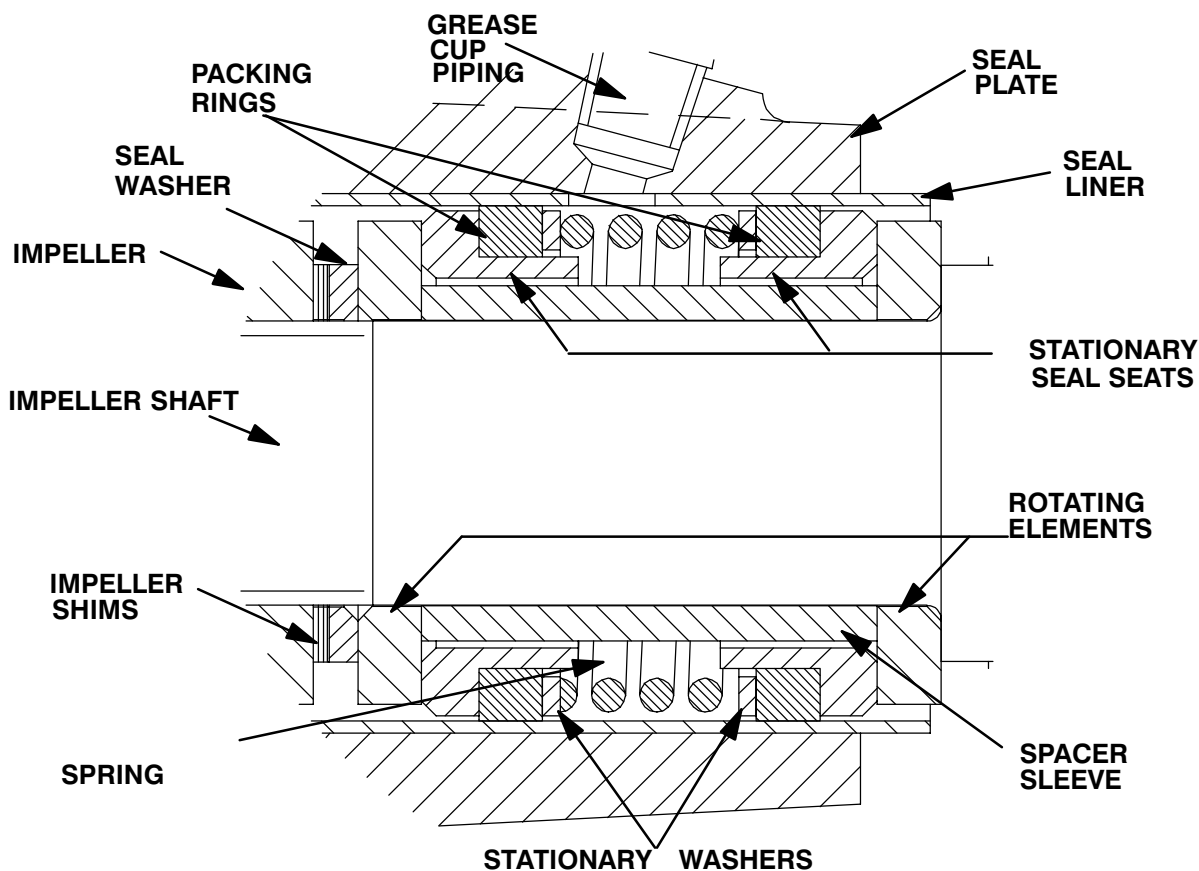

Figure 5. GS1250 Seal Assembly
Before removing the impeller, turn the cross arm on the automatic lubricating grease cup (18) clockwise until it rests against the cover (see Figure 5 in **LUBRICATION**). This will prevent the grease in the cup from escaping when the impeller is removed.
To ease installation of the seal, lubricate the packing rings and seal liner with water or a very **small** amount of oil, and apply a drop of light lubricating oil on the finished faces. Assemble the seal as follows, (see Figure 5).